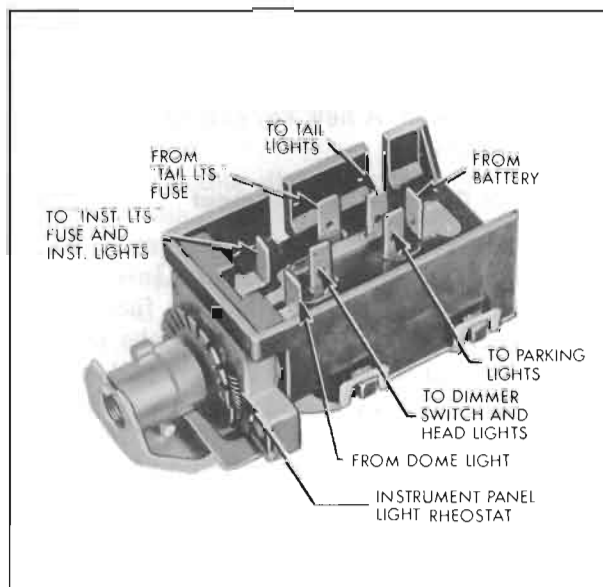

Figure 10-50—Lighting Switch—Bottom Side
If the lighting switch is suspected of being faulty, the contacts can be tested by connecting a low reading voltmeter between the wire supplying current to the contact and the wire conducting current away. This must be done with the switch in a position where the contact under test is closed. See Figures 10-50 and 10-93.
1. Connect an ammeter and a carbon-pile rheostat in series with the battery terminal of lighting switch and positive terminal of a 12-volt battery, and set rheostat to provide maximum resistance. Rheostat must have capacity for 50 amperes and be adjustable down to .3 ohms. See figure 10-50.